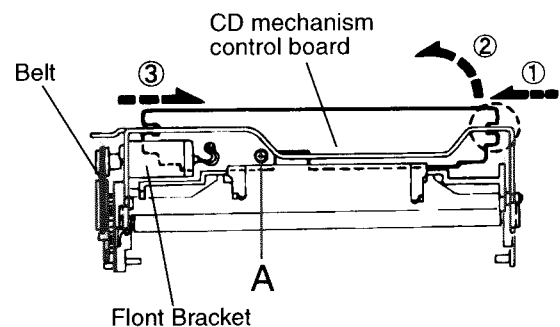

Fig.11
4. Remove the one screw A retaining the CD mechanism control P.C.board (See Fig. 11).
5. After disengaging the engagement between the notch section c and frame,remove the CD mechanism Control P.C .board successively from ① through to ③ in the arrow direction as shown in Fig. 11.